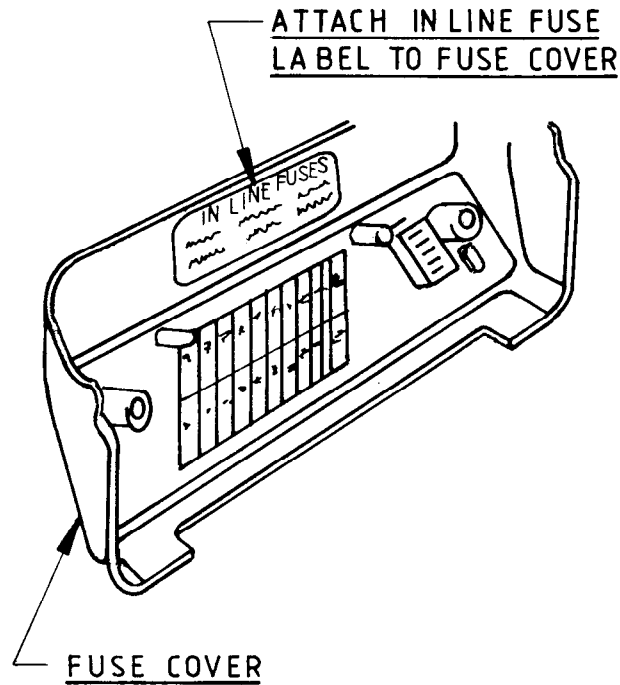

FIG 1 - FUSE COVER
- f. Fit the 15 amp fused cable link (item 3 from Table 1) between the brown wire and the positive inspection socket terminal.
- (1) Locate the white wire from the map light to the connecting block above the blackout switch.
- (2) Disconnect the white wire and replace the bullet connector with the blade terminal (item 2 from Table 2).
- (3) Disconnect the red/white wire from the dimmer switch, connect it to the white wire and refit them to the dimmer switch.
- (4) Remove the white cable connecting the dimmer switch to the main harness and replace it with the 5 amp fused cable link (item 4 from Table 1).
- h. Interlock the fuse holders with the cable tie (item 1 from Table 2).
- i. Attach the label (item 5 from Table 1) to the inside surface of the fuse cover as shown in Fig 1.